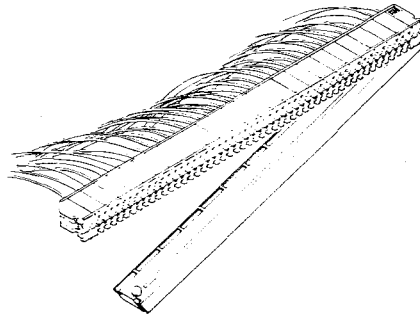

Fig. 56—Remove red protector.
- r. Remove red protector from the bottom of the preterminated bridge module. See Figure 56.